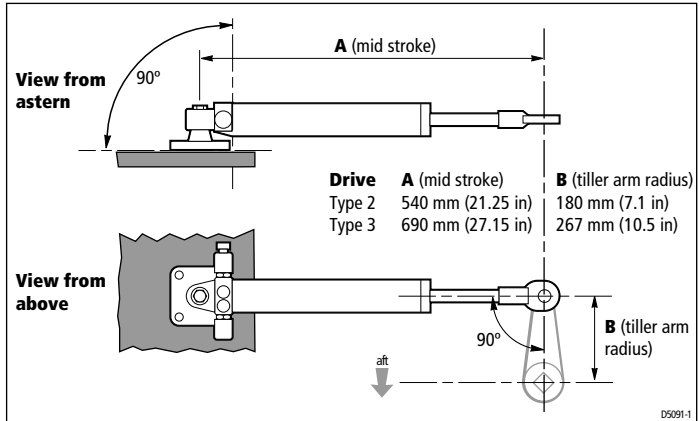

Figure 4: Hydraulic ram alignment
- The ram must be at right angles to the mounting surface (see *Figure 4*).
- The ram must be at right angles to the tiller arm when the rudder is amidships (see *Figure 4*).
Use the supplied tiller pin assembly to attach the rod end to the tiller arm, at the tiller arm radius shown in *Figure 4*.
Note: *If necessary, you will need to drill a hole in the tiller arm at the radius shown in Figure 4.*